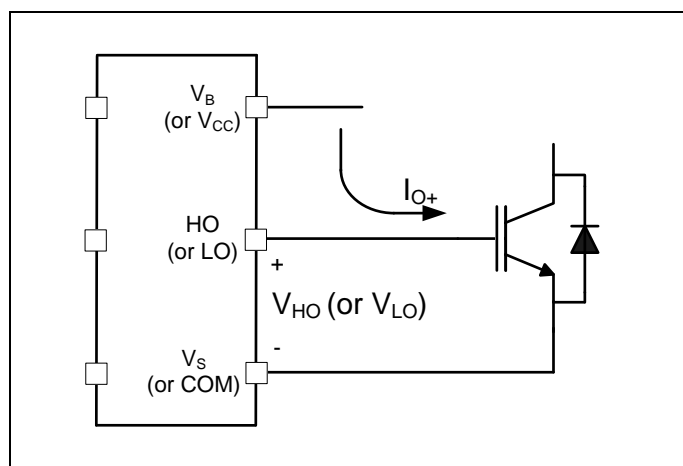

Figure 4 HVIC Sourcing current
The 2ED2183 (4) S06F (J) HVIC is designed to drive MOSFET or IGBT power devices. Figures 4 and 5 illustrate several parameters associated with the gate drive functionality of the HVIC. The output current of the HVIC, used to drive the gate of the power switch, is defined as I_O . The voltage that drives the gate of the external power switch is defined as V_{HO} for the high-side power switch and V_{LO} for the low-side power switch; this parameter is sometimes generically called V_{OUT} and in this case does not differentiate between the high-side or low-side output voltage.